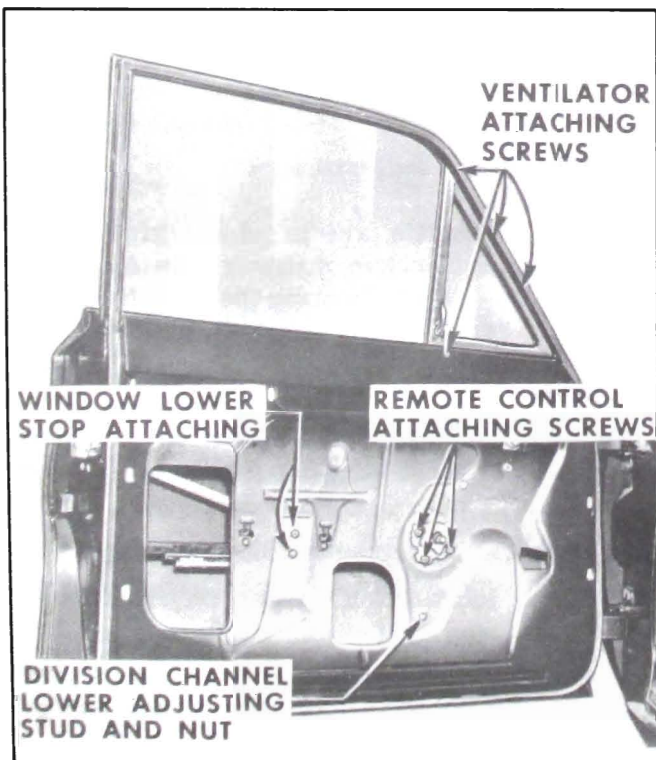

Figure 13-39—Front Door Regulator and Remote Control Attachment
3. Remove screws securing remote control assembly to door inner panel. Pull remote control away from door inner panel; then rotate remote control assembly one quarter turn to disengage connecting link from remote control assembly. Remove remote control assembly and connecting link from door. See Figure 13-39.
4. Carefully lower door window to extreme down position. Remove three (3) door window frame to ventilator attaching screws and one (1) inner panel to ventilator attaching screw. See Figure 13-39.
1. To adjust ventilator division channel in or out or fore or aft, remove door trim assembly and detach inner panel water deflector sufficiently to loosen division channel lower adjusting stud nut. See Figure 13-39. Adjust stud in or out as required or position channel
1. To adjust the lower portion of the ventilator division channel in or out or fore or aft, lower door window and loosen ventilator division channel adjusting stud nut. See Figure 13-39. Turn adjusting stud in or out or position lower end of channel fore or aft as required; then tighten stud nut.